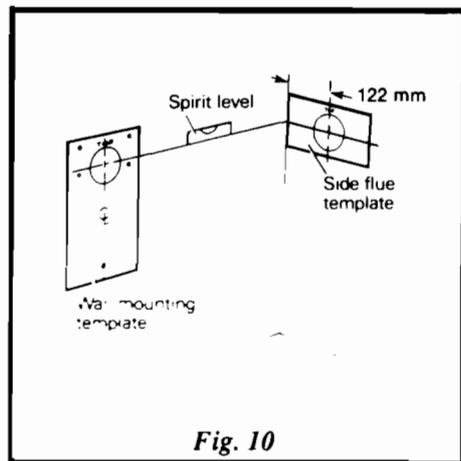

Fig. 10
14.8 Prepare the wall - see Fig. 10 (side flue).